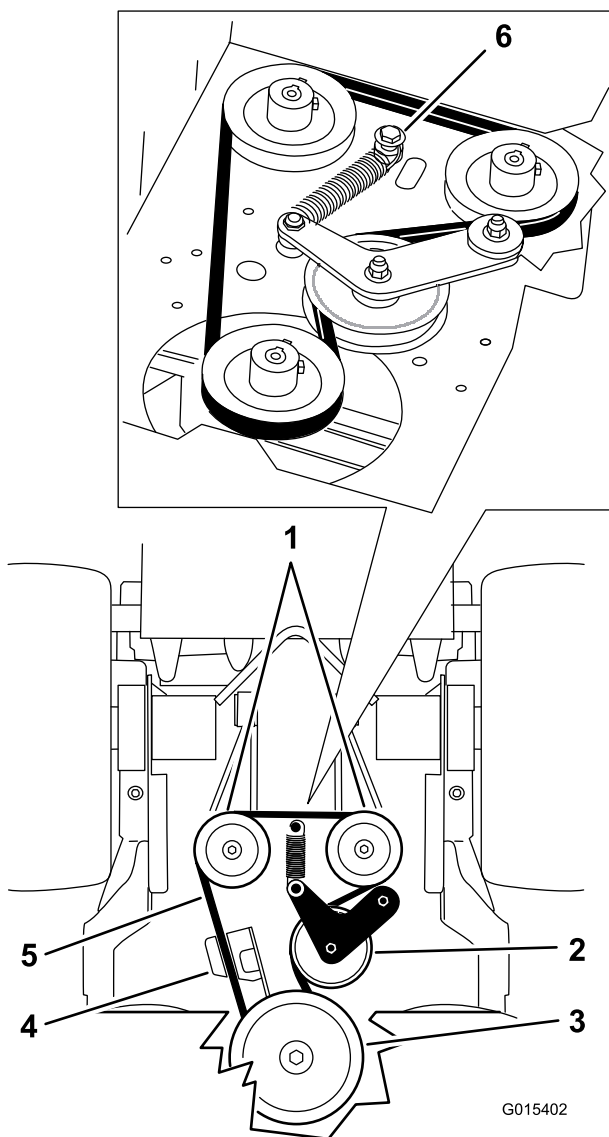

Figure 74
5. Remove the shoulder bolt, nut and washer from the engine deck and connected to the spring (Figure 74).
6. Remove the pump drive belt (Figure 74).
8. Install the spring onto the shoulder bolt and washer and connect it to the engine deck with the nut (Figure 74).